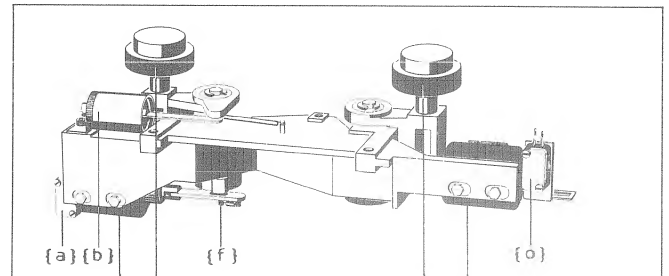

Fig.3.6
-> Fig.3.6
5.EDIT solenoid {c} -> Fig.3.6